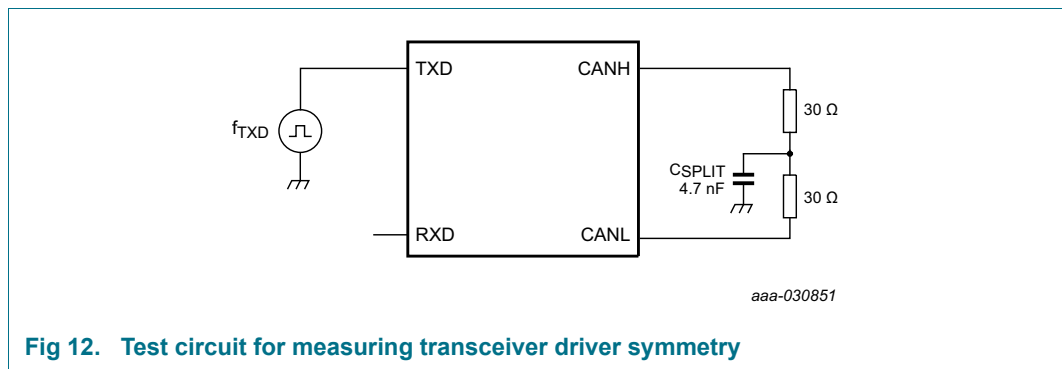

Fig 12. Test circuit for measuring transceiver driver symmetry
- [4] The test circuit used to measure the bus output voltage symmetry (which includes C_{SPLIT}) is shown in Figure 12.
(1) Standby Mode: CAN Offline mode, $V_{BAT} = 12\text{ V}$, $I_{V1} = 0\ \mu\text{A}$.